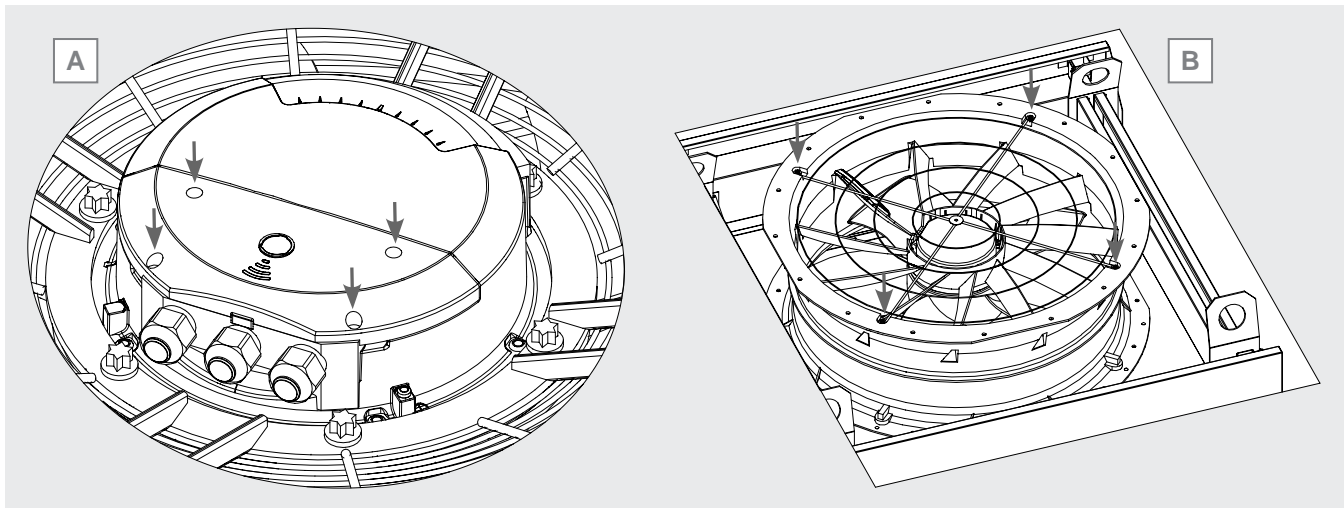

Figure 36
- radial and planar mount motorfan: the box is normally accessible. Unscrew the screws securing the cover and remove it. Store the cover in a suitable place. Shape, size and fixing points of the cover vary according to the make and model of fan: as an example, see Figure 36 A.
- Motorfan with integrated fan shroud: unscrew the screws that attach the motorgrille to the fan shroud. See Figure 36 B. Remove the grille and store it in a suitable place. Locate the motor junction box. Unscrew the screws that secure the cover and remove it. Store the cover in a suitable place. The shape, size and attachment points of the cover vary according to the make and model of fan: as an example, see Figure 36 A.